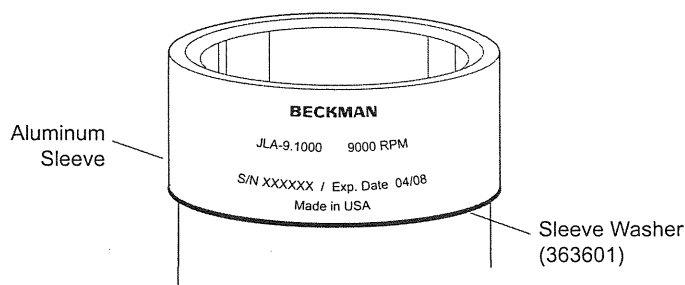

Figure 6. Cannister Sleeve Washer
- Each cannister has an expiration date, which is engraved on the aluminum sleeve around the top of the cannister (see Figure 6). *Do not use the cannister after this date.* New cannisters can be used with the same rotor body. See the Warranty at the back of this manual for more information.
Each cannister has an Ultem sleeve washer (363601) beneath the aluminum sleeve (see Figure 6), which acts as a cushion between the cannister and the rotor body. Before each use, make sure that the sleeve washer is securely in place. If the cannister is exposed to high temperatures and/or autoclaving, the washer may loosen; if this happens, press it back into place with your finger. If the washer becomes deformed so that it no longer stays on the cannister, replace it.